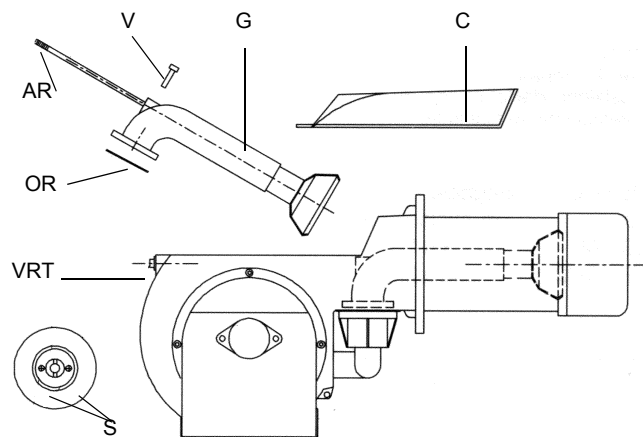

Fig. 26
- Remove, check and clean the combustion head (see Fig. 26)